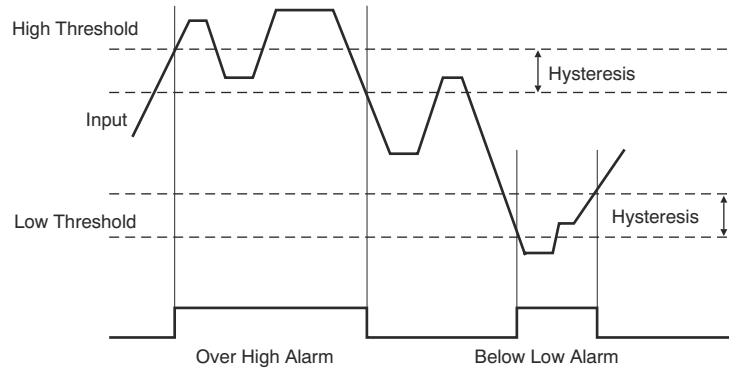

図 7-16. Hysteresis
The device continuously monitors the analog input channels and temperatures. If any alarms are out of range and the alarm is enabled, the alarm bit is set (1). However, the alarm condition is cleared only when the conversion result returns to a value of at least *hys* below the value of the high threshold register, or *hys* above the value of low threshold register. The hysteresis registers store the value for each analog input (CH0, CH1, CH2, and CH3) and temperature (D1, D2, and LT). *hys* is the value of hysteresis that is programmable: 0 LSB to 127 LSB for analog inputs, and 0°C to +31°C for temperatures. For the THERM-ALR bit, the hysteresis is fixed at 8°C. The hysteresis behavior is shown in 図 7-16.